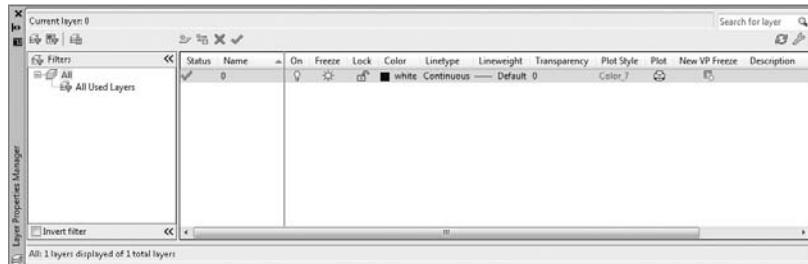

FIGURE 6.6 The Layer Properties Manager palette
-  3. Click the Layer Properties button on the left end of the Layers panel to open the Layer Properties Manager palette (see Figure 6.6). Notice the large open area in the middle right of the dialog box with layer 0 listed at the top of the Name column. This is the Layer List box. All the layers in a drawing are listed here, along with their current states and properties. 05A-FPLAY4.dwg has only one layer so far.